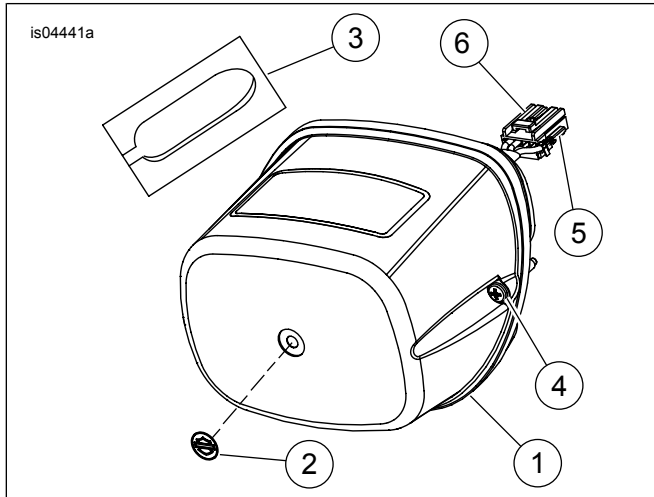

Figure 3. Service Parts: LED Tail Lamp with Bar & Shield Logo (Non-FLHX Model Shown)
See Figure 3 and Table 1.
7. See Figure 3. Peel the liner from the adhesive backing of the Bar & Shield emblem (2) from the kit. Orient the emblem with the logo upright, and carefully position the emblem to the recessed area in the center of the tail/stop lamp lens. Press firmly into place, ensuring that the edge is securely fastened all around.